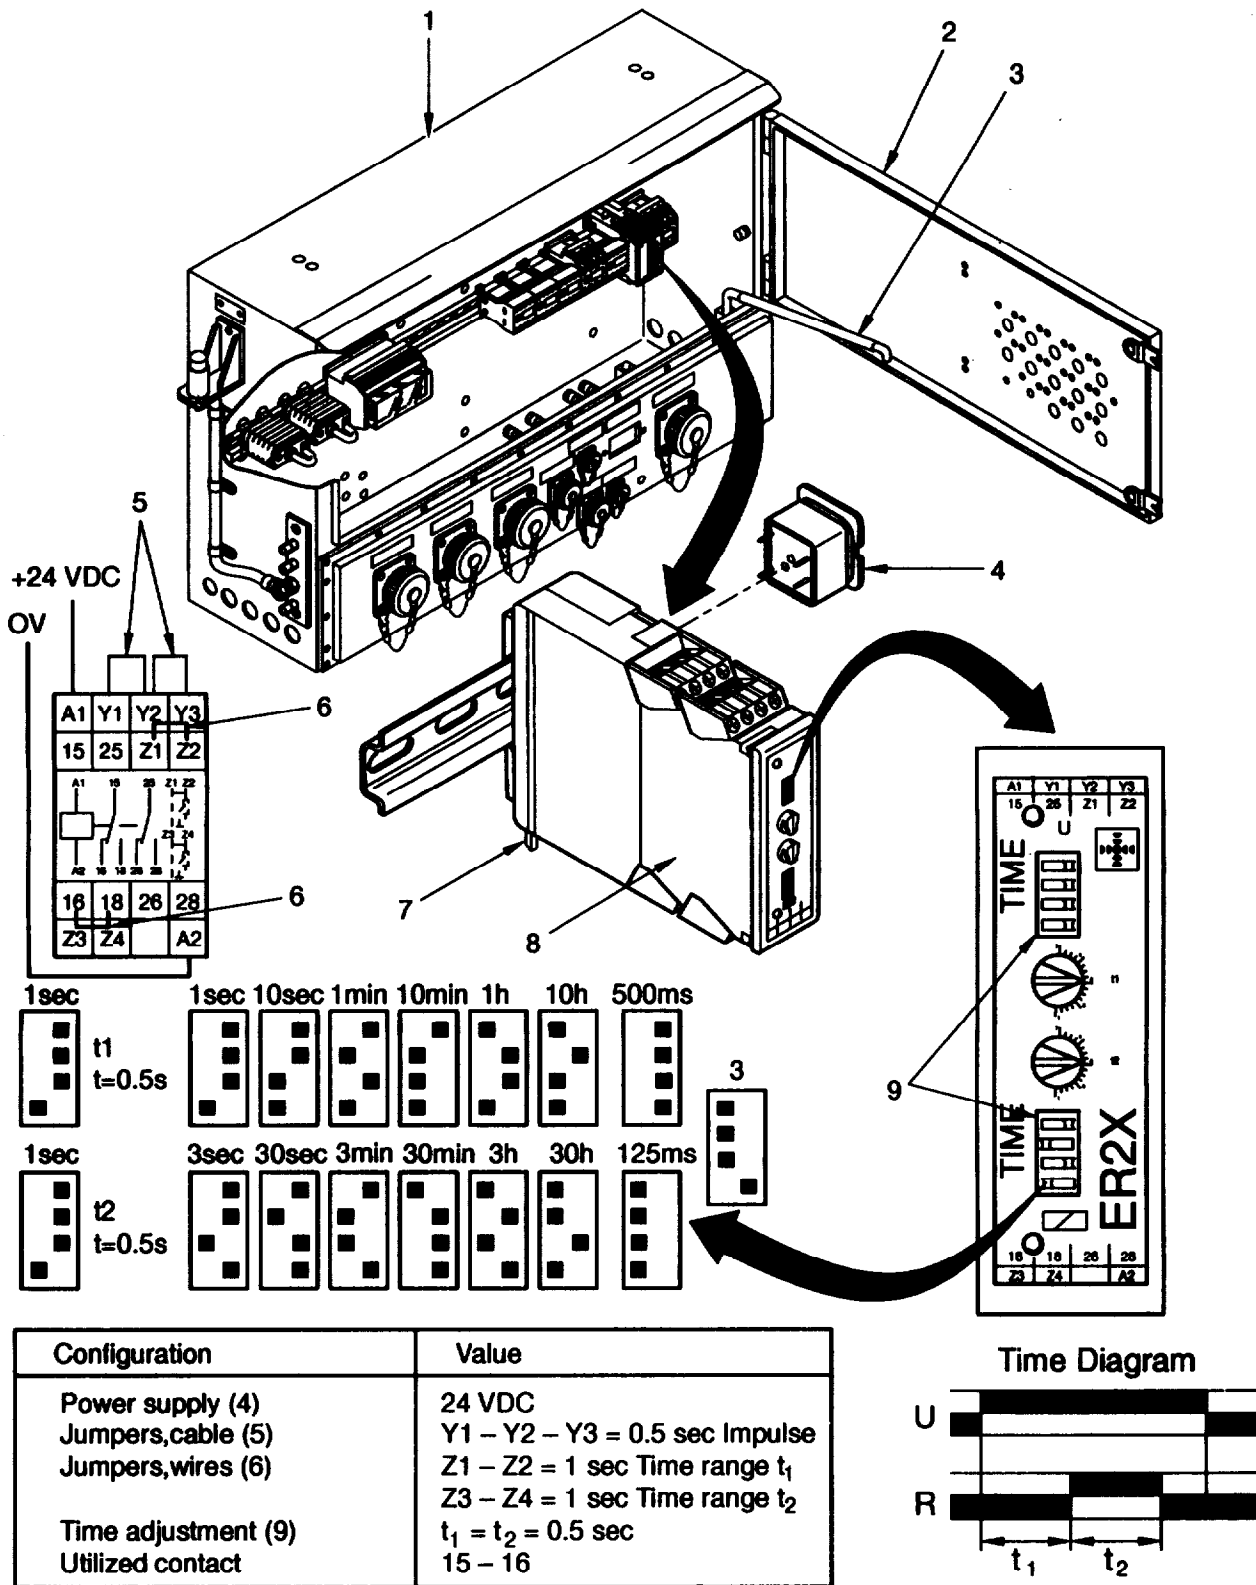

Figure 5-14 The Relay K14.
- a. Remove stanchion by PDU (1, figure 5-14).
- b. Open access door (2) and secure with prop (3).
- d. Record labeling of cables from time relay K14 (8) and remove cables:
- e. Push out snap mount lock (7) with screwdriver; tilt time relay K14 (8) and remove from mounting bar.